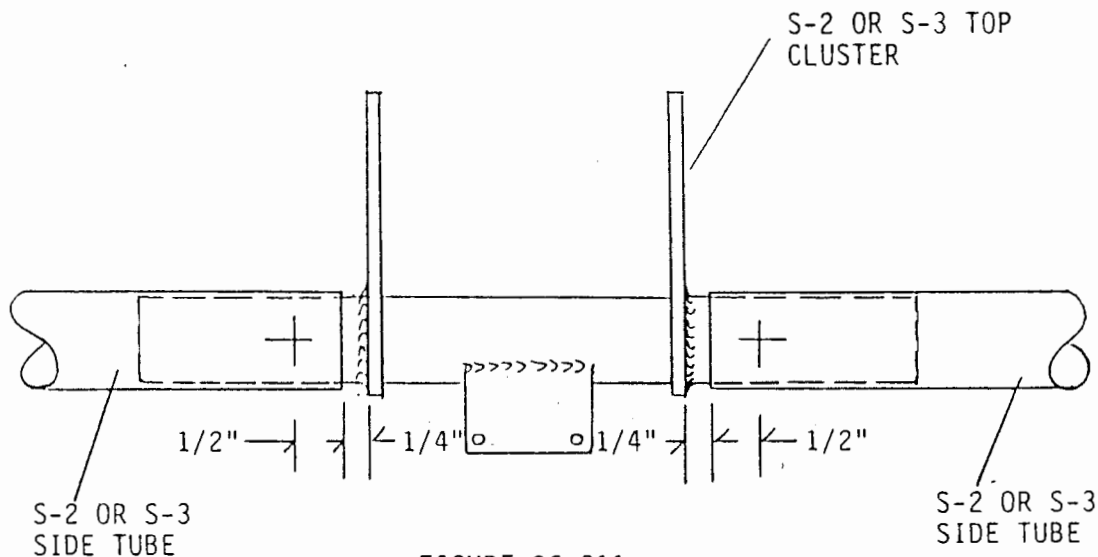

FIGURE 06-011
11. Assemble the (2) S-3 side tubes and S-3 top cluster to the fuselage. IMPORTANT: Clamp the cluster in a perfect vertical alignment with the S-3 side tubes. HINT: Install the S-3 diagonal braces to align vertically. Locate and drill a  $1/4$ " hole on each side of the S-3 side tubes at the cluster as in Figure 06-011. Install the bolts after deburring. NOTE: The  $1/4$ " bolts will be used to retain the shoulder straps so it is important to use the  $1/4$ " tensile nuts shown.